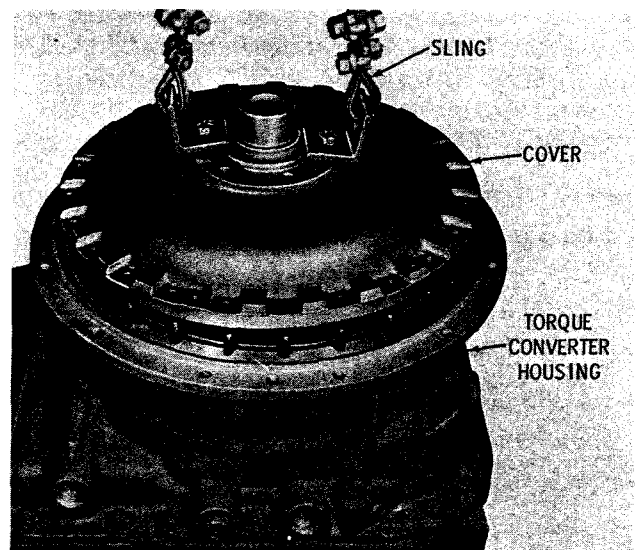

Fig. 5-9. Removing torque converter drive cover
(4) Attach a sling and remove torque converter drive cover (fig. 5-9). Ball bearing 1 (A, foldout 3) may remain in the torque converter drive cover; if so, remove the bearing.